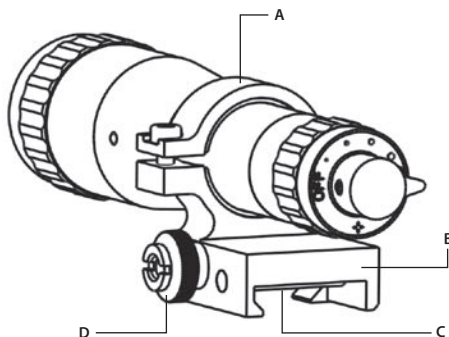

FIGURE 3-12. IR-850 ILLUMINATOR
The IR850 (Figure 3-12) is delivered already assembled with a dedicated mount, to be installed on the Weaver rail of the CO-MR. The mount clamp (A) has a spherical hinge that allows the user to tilt the IR850.